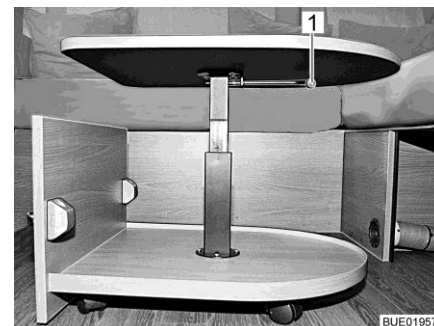

Fig. 132 Coffee table, extended
- Turn the catch lever (Fig. 132,1) 90° downwards.